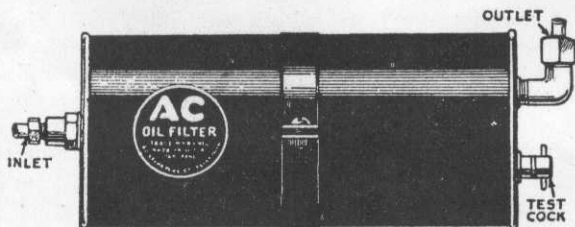

Fig. 9—Oil Filter.
- (4) Once each week in winter draw off a half-pint of oil from the crankcase at the drain plug after the motor has been in use, allowing time for the water, if any, in the crankcase to settle to the lowest point. You will likely find a small amount of water each time you drain.
- (5) Use the choke sparingly.
- (6) Do not idle the motor unnecessarily.
- (7) Keep piston and ring fits up to standard, thus preventing blow-bys.
- (8) Keep valves ground and properly adjusted.
- (9) Be sure cylinder head gaskets and intake manifold gaskets do not leak.
- (10) Take your car to the Chevrolet Dealer for regular periodic inspection.
- (11) Test condition of oil filter by unscrewing test cock. Renew filter cartridge if necessary (Figure 9).